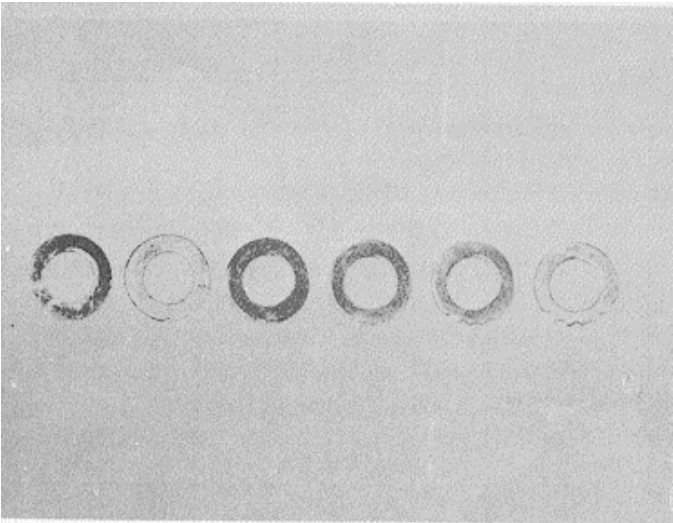
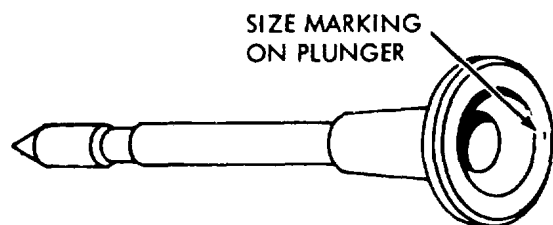
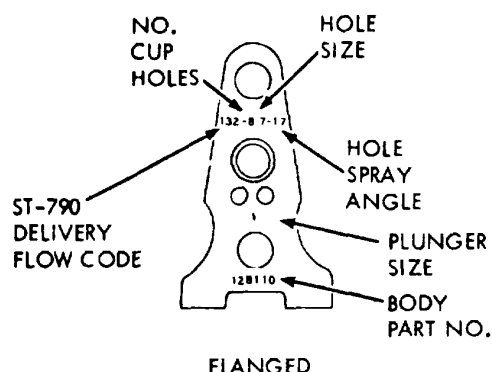

Figure 3-87. Injector cup gasket markings.
Figure 3-88. Size marking location on plunger.
Figure 3-89. Size markings on injector body.
(2) Select new injector cup gasket corresponding to plunger body size, figure 3-87 table 2-2. See figure 3-88 for location of size markings on plunger and figure 3-89 for body markings.